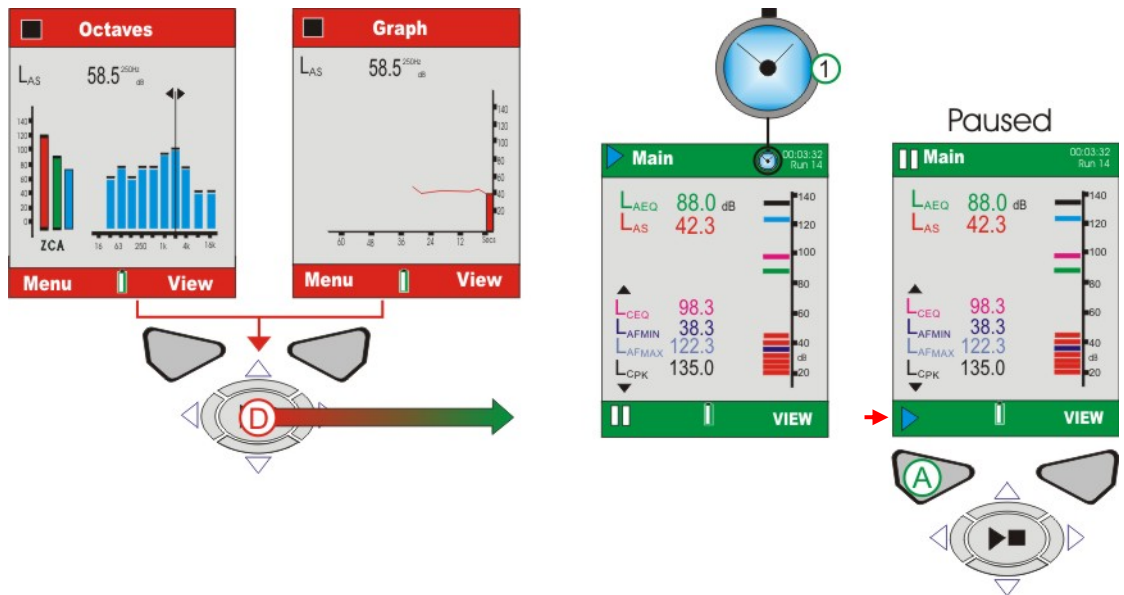

Figure 12 Run Screens
J. RUN SCREENS (Refer to Figure 12)